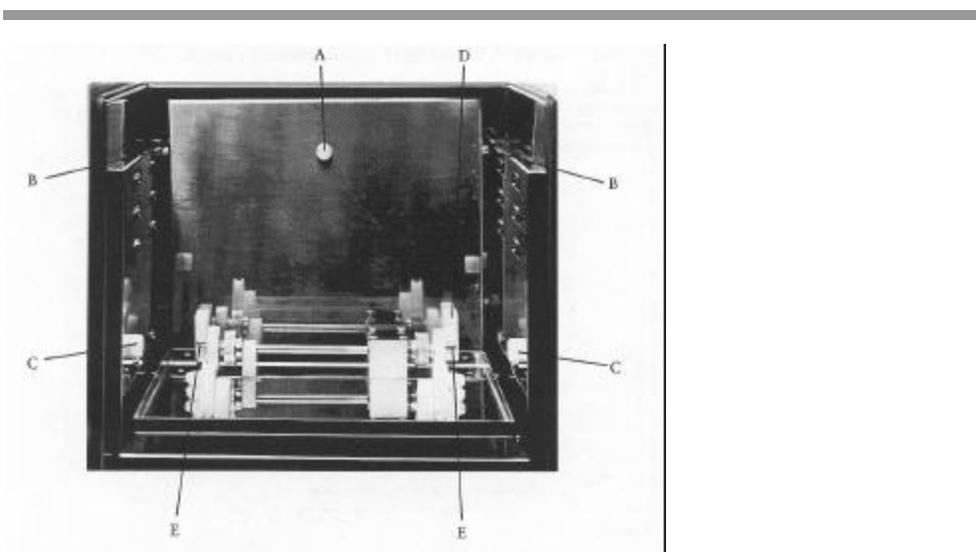
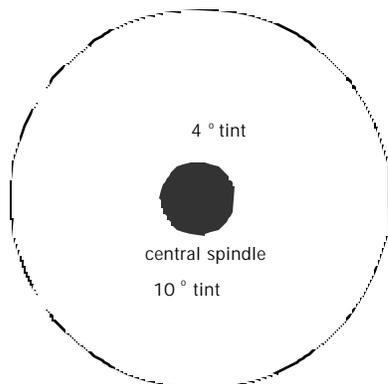

Fig 2. Hybridization oven drive components
Fig 3. Adjustment of angle of tilt of platform shaker
- 3.4.2 Lift the platform by its handle (A, see figure 2) from its storage position, slide it forward and locate it on the rocking mechanism by placing the side pegs (B) of the platform into the retainers (C) on the side walls of the oven chamber. This action seats the nylon blocks (D) on the underside of the platform on to the pegs (E) protruding from the rocker mechanism at the rear of the oven.
The tilt angle is controlled by the position of the pegs in the rocker mechanism, which is attached to the rear of the spill tray. To alter the tilt angle, unscrew the spill tray by rotating the nylon retaining screws anti-clockwise. Lift out the spill tray. Remove the two pegs (E in figure 2) and screw in to the appropriate position in the rocker mechanism. Figure 3 below, shows the relative positions of each hole and the tilt angle to which they correspond.